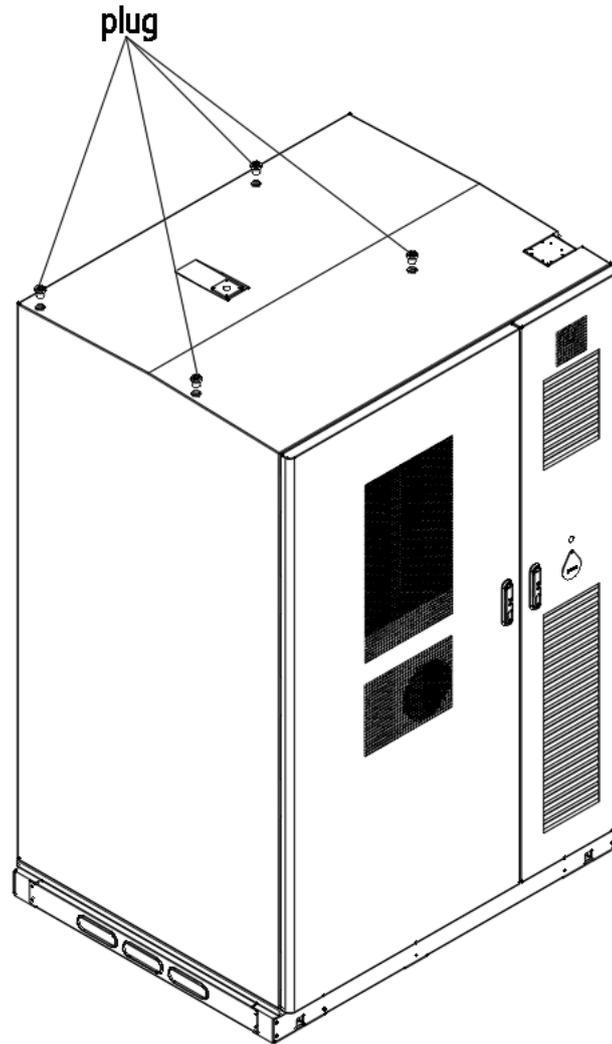

Figure 4-4 Schematic of the Energy Storage Cabinet Plug Removal
- ③ Use a hexagon socket wrench to unscrew the 4 plugs at the lifting ring installation position on the top of the energy storage cabinet, as shown in Figure 4-4: the same operation applies to the combiner box;